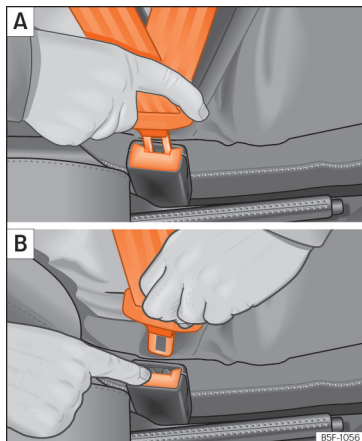

Fig. 73 Positioning and removing the seat belt buckle.
- Engage the latch plate in the buckle of the corresponding seat » **Fig. 73 A.**
- Press the red button on the buckle » » » **Fig. 73 B**. The latch plate will come out of the buckle.